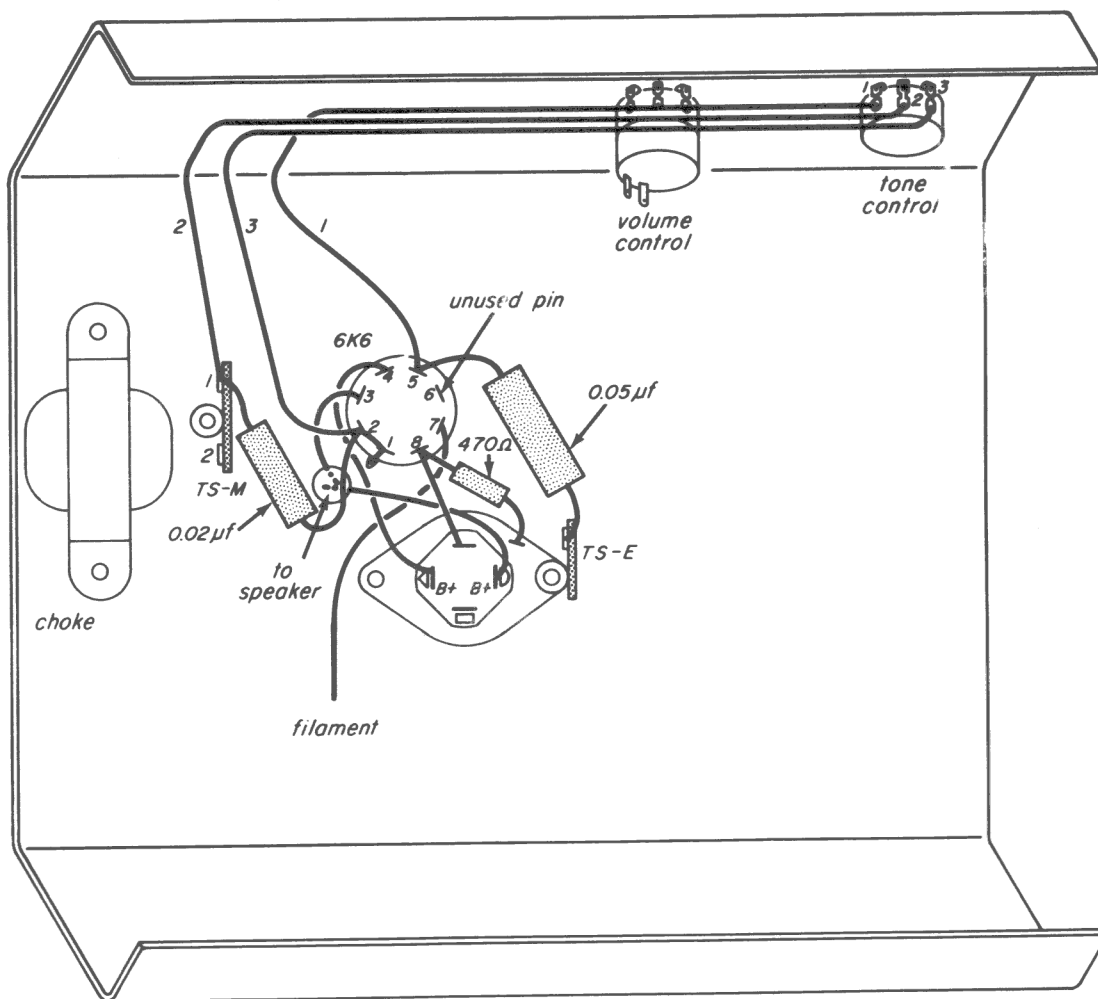
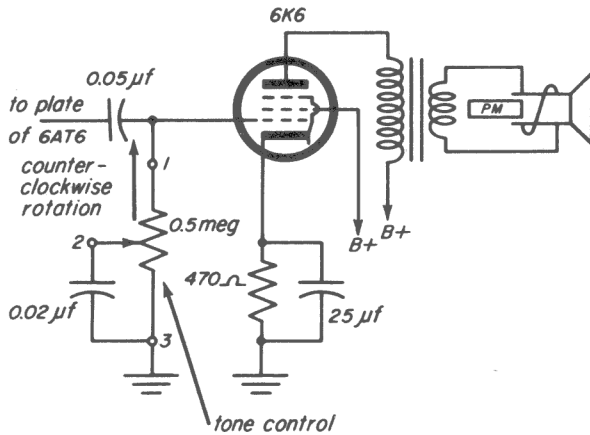

Fig. 35-1
Fig. 35-6
port bracket to chassis (Fig. 35-1). Use the screw nearest the filter choke. This terminal strip will be referred to as TS-M.
Step 4. Remove the 270- μ f capacitor that is connected from TS-E to chassis. (See Fig. 35-1 for the location of TS-E.) The 270- μ f capacitor serves to bypass r-f voltage that reaches the audio stage and thus prevent r-f regeneration. Your receiver should operate without this capacitor and not regenerate r-f, at least on some stations. You will need the 270- μ f capacitor for the experimental tone control circuits that you are going to build.
Step 5. Connect a piece of hookup wire from terminal 2 of the tone control (Fig. 35-1) to terminal 1 of TS-M. Dress this wire as shown in Fig. 35-1. We will refer to this wire as lead 2.
Step 6. Connect a piece of hookup wire from terminal 3 of the control to pin 2 (ground) of the 6K6. Dress the lead as shown in Fig. 35-1 and allow enough slack for the wire to reach TS-M later on. We will refer to this wire as lead 3.
Step 8. Connect a piece of hookup wire from terminal 1 of the control to pin 5 of the 6K6. Dress the lead as in Fig. 35-1. This wire will be referred to as lead 1.
Information. A schematic of the circuit you will be working with is shown in Fig. 35-6. The wiring is shown pictorially in Fig. 35-1. The filter is made up of the tone-control resistor and the 0.02-μf capacitor connected to the moving contact, terminal 2, and it is in the main signal path. The tone control resistor takes the place of the 470 k-ohm fixed resistor grid leak that you have removed (Job 35-1). The signal input voltage to the 6K6 develops across the tone control resistor. With the control in the extreme clockwise position, the moving contact (terminal 2) of the control is at terminal 3 and the 0.02-μf capacitor is shorted out. As the moving contact advances counterclockwise (c.c.) toward terminal 1, the 0.02-μf capacitor is shunted across more and more of the resistance of the control. Thus the capacitor is in position to bypass more and more of the signal voltage developed across the resistance of the control. However, the capacitor
matically in Fig. 35-6.